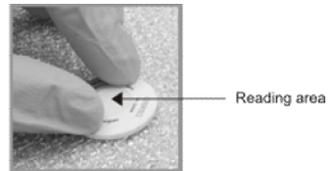

Figure 3
- Press firmly to adhere sticker to the filter's outlet Figure 3.